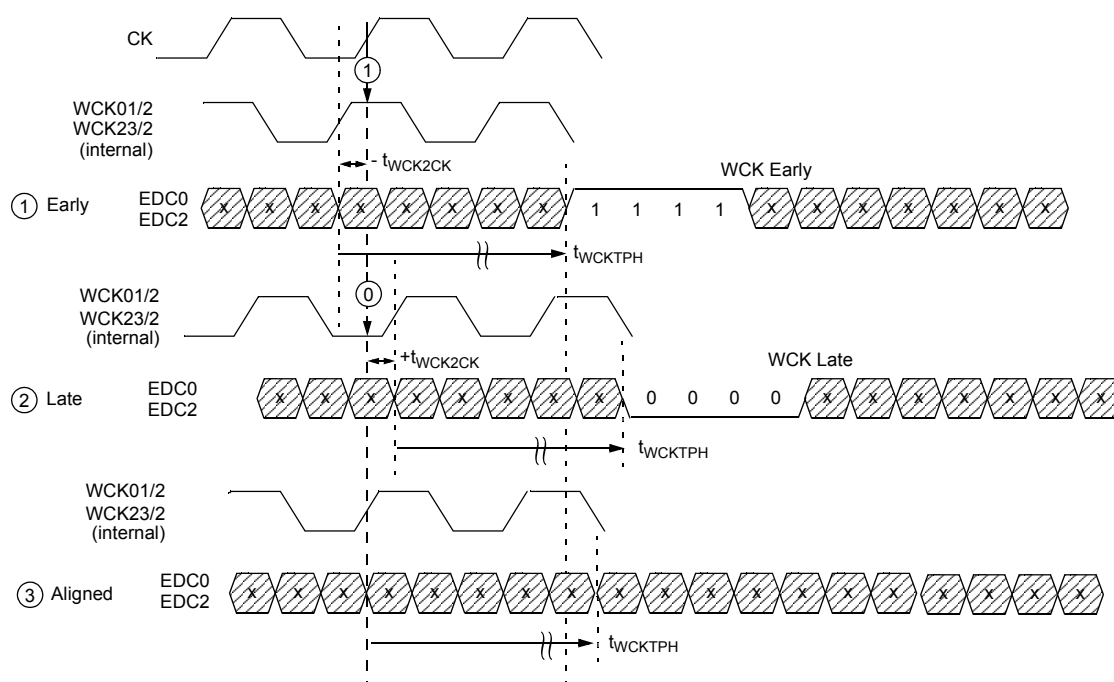

Figure 14. EDC pin Behaviour for WCK2CK Training (assumes '1111' as EDC Hold Pattern)
Figure 14 illustrates how the WCK phase information is derived. The phase detectors (PD) sample the internally divided-by-2 WCK clocks. Only one sample point is shown in the figure for clarity. In reality, when WCK2CK training mode is enabled, a sample will occur every t_{CK} and will be translated to the EDC pins accordingly. If the divided-by-2 WCK clock arrives early, then the EDC pin outputs the EDC hold pattern during the time interval specified in Figure 14. If the divided-by-2 WCK clock arrives late, then the EDC pin outputs the inverted EDC hold pattern during the time interval specified in Figure 14. This is shown in Table 10.